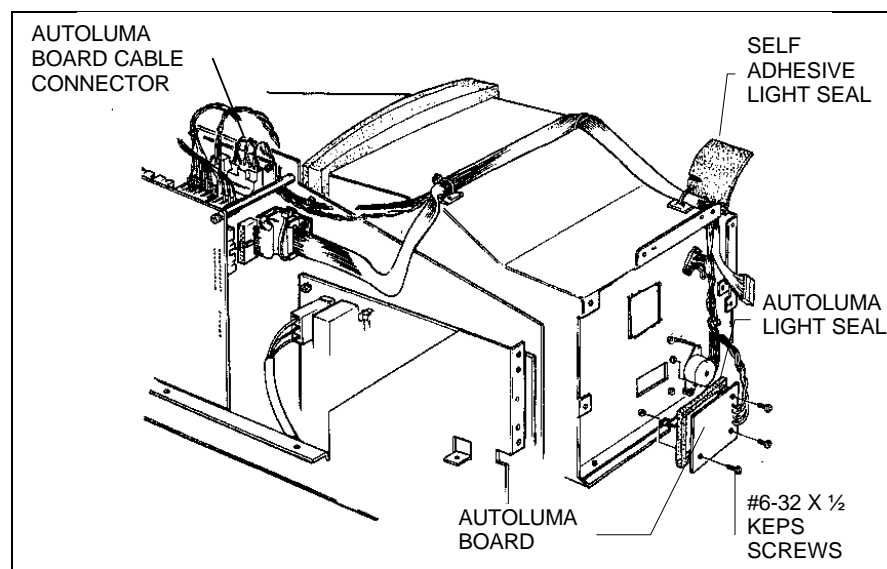

Figure 6- 12. Removing the autoluma board
3. Carefully peel back the self-adhesive light box seal at the top right corner of the Front Panel Assembly. (Refer to Figure 6- 12.) Fold it back far enough to expose the cables under it. Temporarily adhere the folded seal to the side of the unit.